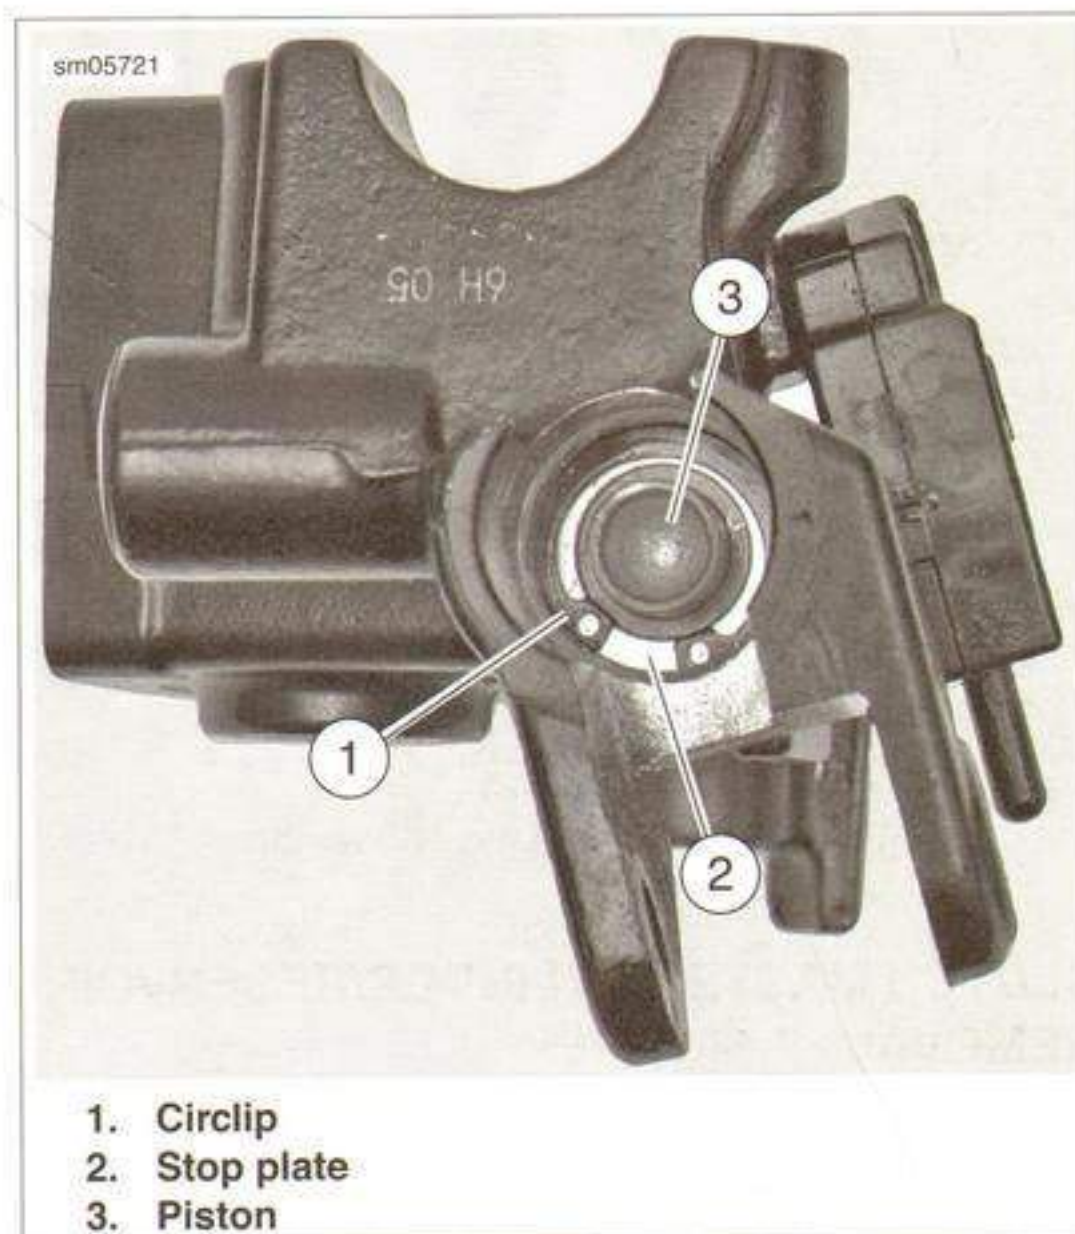

Figure 6-5. Piston in Master Cylinder
5. See Figure 6-5. Press on piston assembly (3), remove internal circlip (1) and discard.
6. Remove stop plate (2), piston assembly and spring from master cylinder and discard.